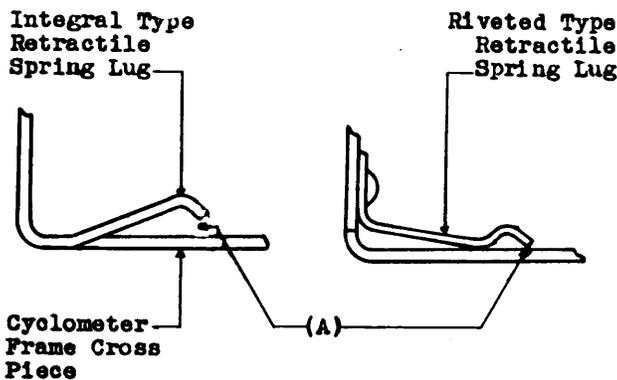

Fig. 8 - Retractable Spring Lug Position
2.12 Retractable Spring Lug Position — Fig. 8(A)